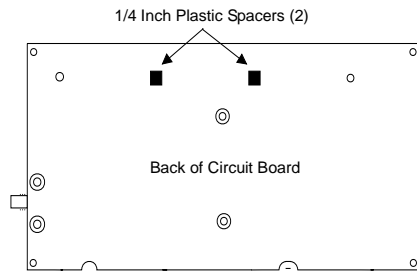

Figure 6. Installing the Board Mounting Spacers
1. Snap the included 1/4 inch plastic spacers into the back of the circuit board as shown in Figure 6.